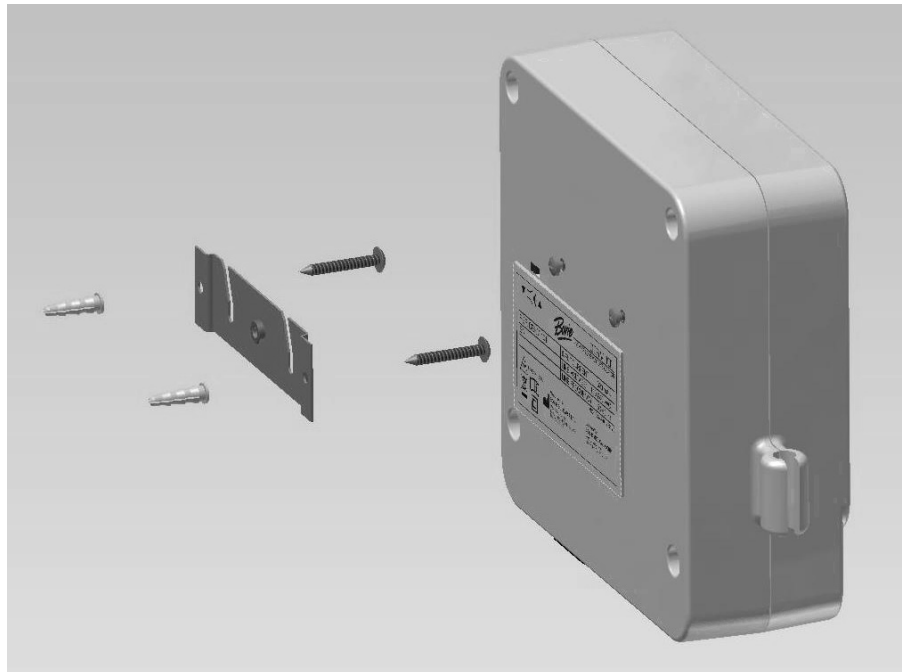

Figure 1
1. Mount the Bovie® DERM 101/102 on the wall or optional mobile stand using the standard mounting kit (see figure 1). Do not operate the unit in the horizontal position, as liquids may spill into unit.